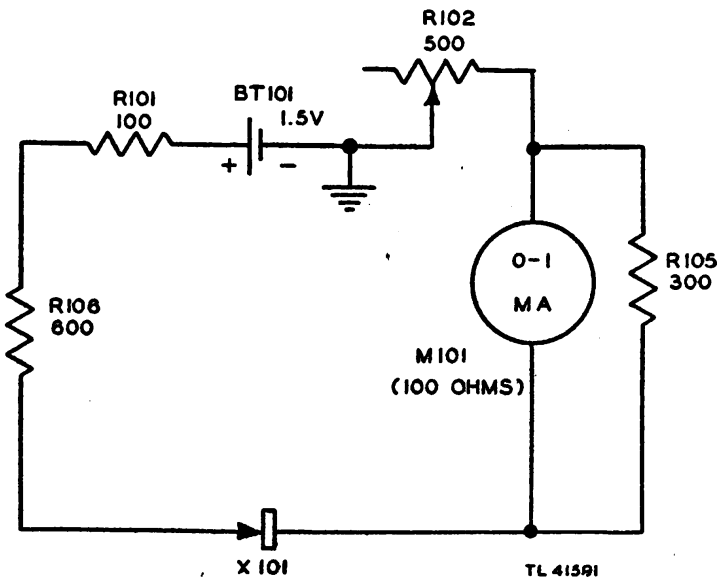

Figure 7. Circuit for forward resistance measurements, simplified schematic diagram.
(3) *FWD RES Position* (fig. 7). When the selector switch is rotated to this position, the crystal rectifier under test is inserted into the series circuit described in subparagraph (2) above. The additional resistance introduced into the circuit by the crystal rectifier causes a decrease in the current flow, and the meter pointer will indicate at some point on the scale other than the full-scale mark. Since the upper scale of the meter is calibrated to express resistance in terms of the current flowing through the meter coil, the forward resistance of the crystal rectifier (in kilohms) is read directly from this scale.